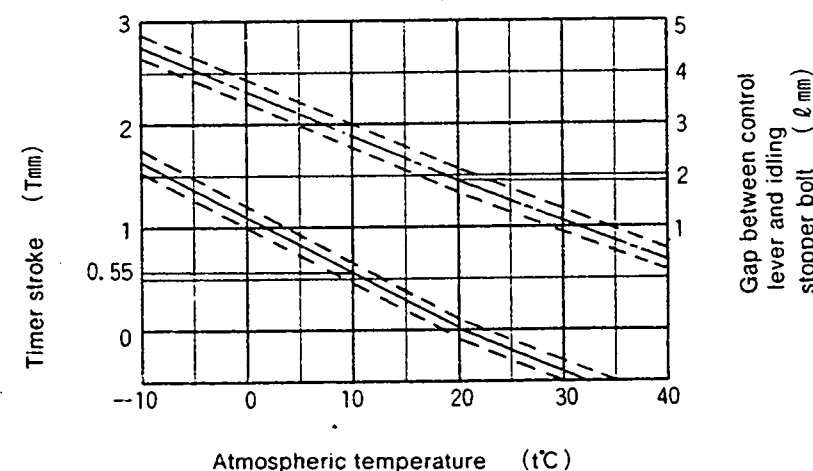

Fig 2.
1. Calculate the timer stroke from Fig. 2 according to the atmospheric temperature at the time of adjustment.
Formula for calculating Fig. 2
1. Calculate the block gauge dimension  $l \pm 0.05$ mm from Fig. 2 according to the atmospheric temperature at the time of adjustment.